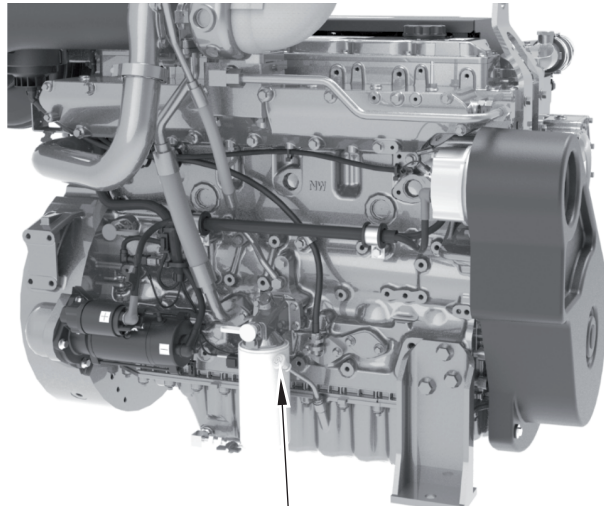

Figure 30
7. Fill the oil sump with the correct amount of new engine lubricating oil. Allow the oil enough time to pass to the sump. Remove the dipstick (figure 30 item 1) and ensure that the lubricating oil is to the full mark. Do not exceed the full mark on the dipstick. Ensure that the dipstick is fitted correctly in the dipstick tube.